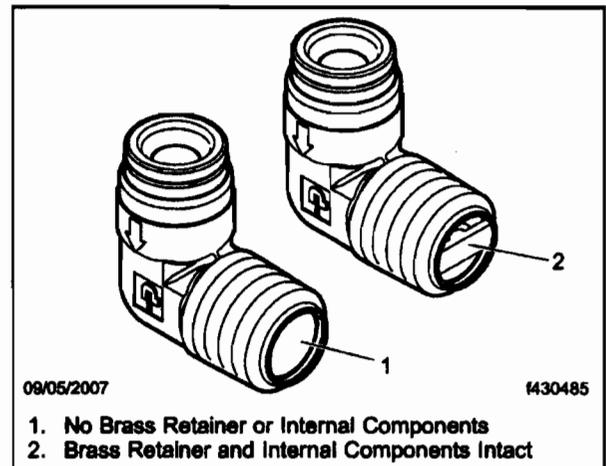

Fig. 2, Inspecting the Parker External Check Valve
7. Inspect the outlet (threaded side) of the Parker single check valve to determine whether the brass retainer and internal components are present and intact. See Fig. 2.